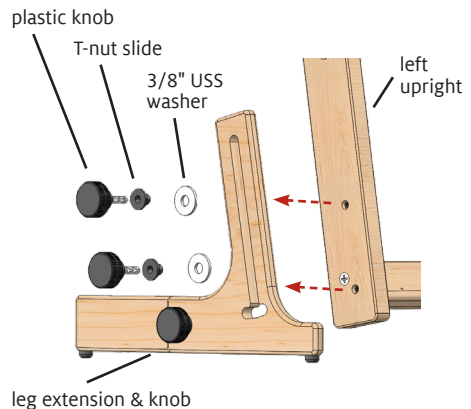

FIGURE 1: REMOVE THE LEFT LEG
1. Remove the left leg from the loom: Unscrew the two round plastic knobs that hold the leg and foldable extension to the left upright, as shown in Figure 1. (Leave the leg extension knob in place; there's no need to disassemble the foldable extension.) Remove the 3/8" USS metal washers from the knobs but keep the T-nut slides in place for the next step. You can store the metal washers and the leg.